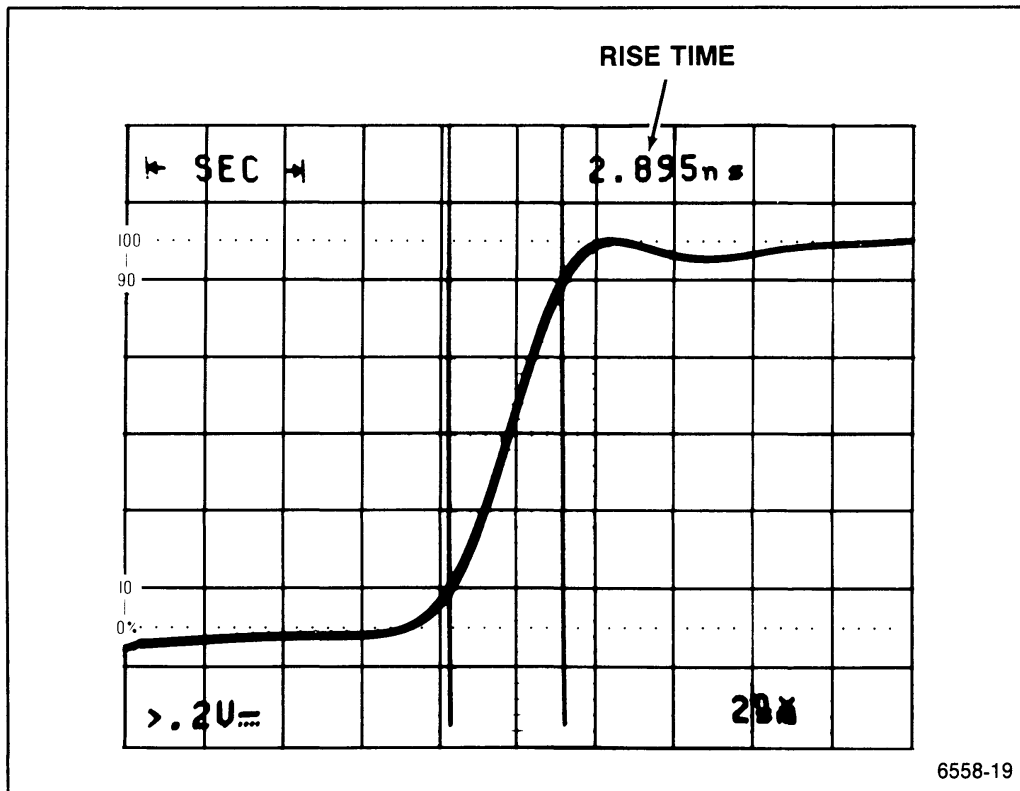

Figure 5-4. Rise-time measurement.
6. Increase the SEC/DIV setting to stretch out the rising edge of the waveform as much as possible to improve the cursor placement accuracy (see Figure 5-4).
10. Use the ← OR DELAY control to align the first cursor to the rising edge at the point where it crosses the 10% reference graticule line. Then use the → control to align the second cursor to the point where the rising edge crosses the 90% graticule line and read the rise time displayed in the top line of the crt readout (see Figure 5-4).